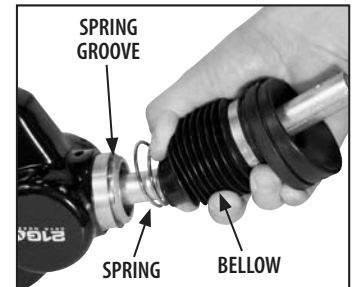

FIGURE 4
- 3) By pulling the bellows assembly over the old spout, the internal spring will automatically pop out of its groove. Once free, discard the old vapor boot/spring assembly. (Figure 4)